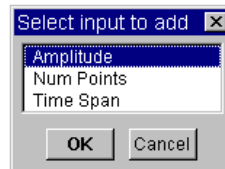

Figure 37 Example: Adding Input Terminals
- 1 Connect the input and output pins as shown in Figure 37.
- 1 Click on the object menu or press **Ctrl+A** with the mouse pointer in the “terminal area” at the left side of the Noise Generator. The dialog box appears for you to add an input, as shown in Figure 37.